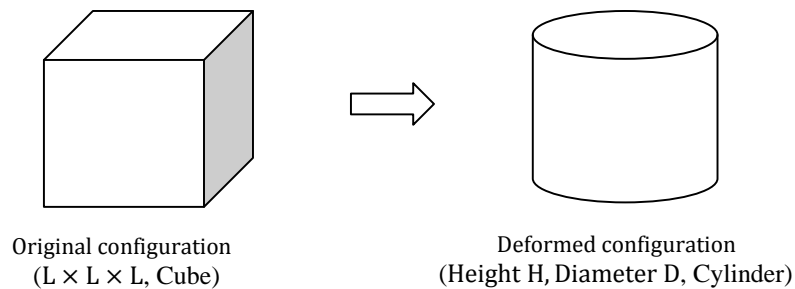

Fig. 1. A deformation
1. A body is deformed as shown in Fig. 1. Calculate  $\int_V \det \mathbf{F} dV$ , where  $\mathbf{F}$  is the deformation tensor and  $V$  is the original volume. (10pt)